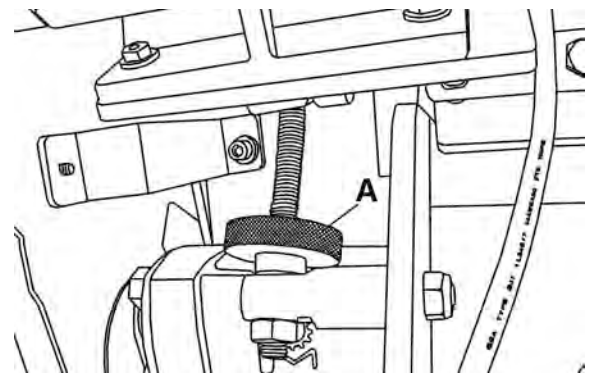

FIGURE 4
2. Release tension on the V-belt by turning the tension lock ring (A) Fig. 4 counterclockwise, and let the motor swing downwards.
5. Adjust the V-belt tension by lifting the motor until there is approximately 1/2" deflection of the belt at the center span of the pulleys using light finger pressure. Then tighten tension lock ring (A) Fig. 4 and close V-belt and pulley cover.